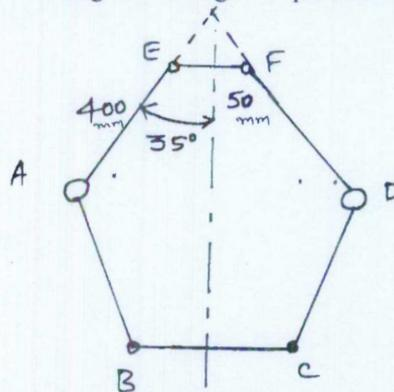

Fig.Q9(a)
- 9 a. In an open-arm type governor shown in Fig.Q9(a).  $AE = 400$  mm,  $EF = 50$  mm and angle,  $\theta = 35^\circ$ . Determine the percentage of change in speed when  $\theta$  decrease to  $30^\circ$ .